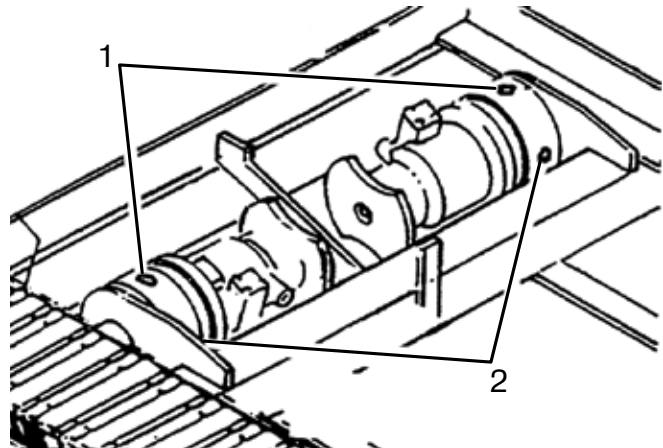

Figure 5-3. Torque Hub Plug Orientation
1. Check oil level in drive torque hubs. The torque hub is positioned so the center plug (**Figure 5-3,1**) is at the twelve o'clock position. Remove the plug either at the three or nine o'clock position (**Figure 5-3,2**). If oil comes out, no oil is needed. Insert plug and tighten. If oil does not come out, remove the plug at the 12 o'clock position and fill torque hub with 50 wt. gear oil until oil starts to appear at the other hole. Replace both plugs and repeat process on other torque hub.